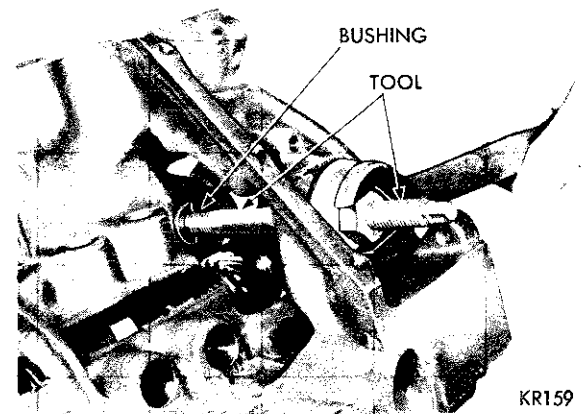

Fig. 31—Removing Distributor Drive Shaft Bushing Using Tool C-3052
- (1) Insert Tool C-3052 into the old bushings and thread down until a tight fit is obtained (Fig. 31).
- (2) Hold the puller screw and tighten puller nut until the bushing is removed.